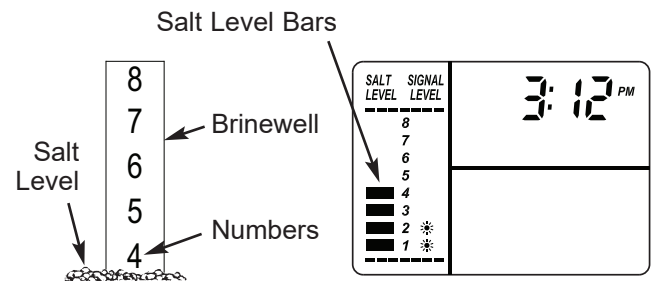

FIG. 25
2. The salt level scale, on the brinewell inside the tank, has numbers from 0 to 8 (see Fig. 25). Observe the highest number the leveled salt is at, or closest to.
3. Press the SET SALT LEVEL button as many times as necessary to make the salt level bars in the display (see Fig. 25) match the number on the brinewell. At level 2 or below, the Low Salt light will flash (See Page 12).